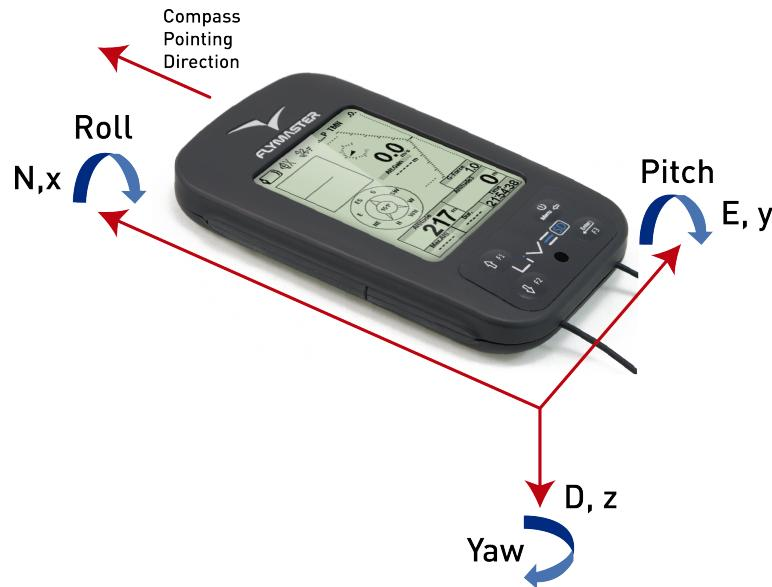
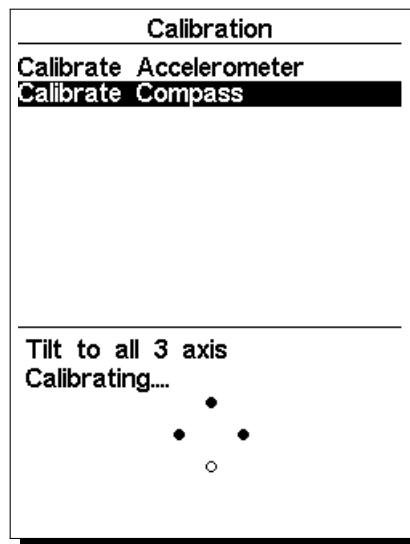

Figure 8.2: Compass Calibration Reference Frame
Figure 8.3: Compass Calibration Indication Points
The magnetometer has 3 axes (Figure 8.2 ) which are associated with the instrument reference frame. Turning the instrument around each of the 3 axes will change the Yaw, Pitch and Roll angles. In order to make a proper calibration the instrument should be turned/rotated slowly in each of the 3 axis. It is not important to make a complete rotation, or the order in which the turns are made. What is important is that instrument is rotated to vary the Yaw, Pitch and Roll from an angle near -90°to +90°. An indication of the calibration procedure state is given using 4 circles that are shown at the bottom of the calibration page (see Figure 8.3). The top and bottom circles are associated with the Pitch angle, while the left and right circles are associated with the Roll angle. When the calibration is initiated all the circles are empty (no color). If the instrument is rotated so that the pitch angle gets close to -90°then the top circle is filled black. Similarly, if the pitch angle gets close to +90°then the bottom circle is filed black. The same thing happens with the left and right circles when the instrument is rotated for the Roll angle. No indication is given for the Yaw angle. The calibration procedure is automatically terminated when all the circles become black. In the figure Figure 8.3 all the circles are black except the bottom one. The complete calibration procedure can be summarized in the following points:
1. Go to Menu->Settings->Calibration and choose the "Calibrate Compass" option (see Figure 8.3);